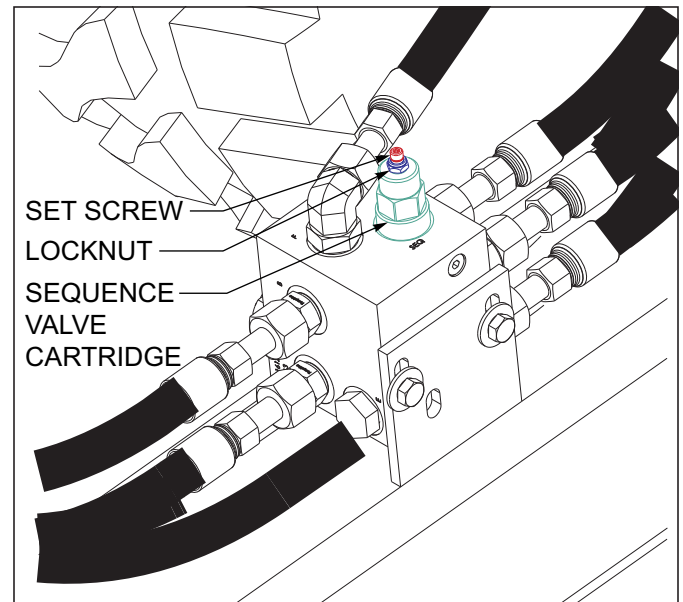

Figure 4-5: Hydraulic Push-Off Adjustment
- a. Loosen the locknut on the sequence valve cartridge. See Figure 4-5